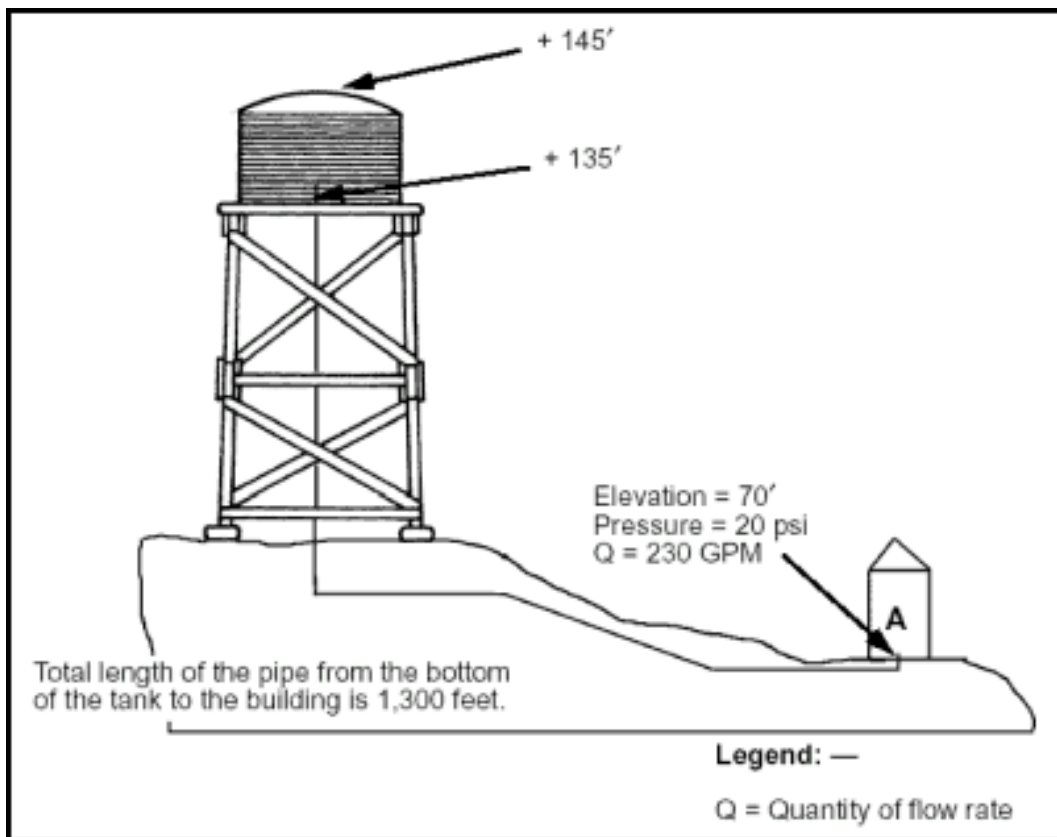

Figure E-4. Water Line, Design 1
$$Q = 230 \text{ GPM (Figure E-4)}$$
Step 3. Determine the pipe length. Pipe length given is 1,300 feet (Figure E-4).